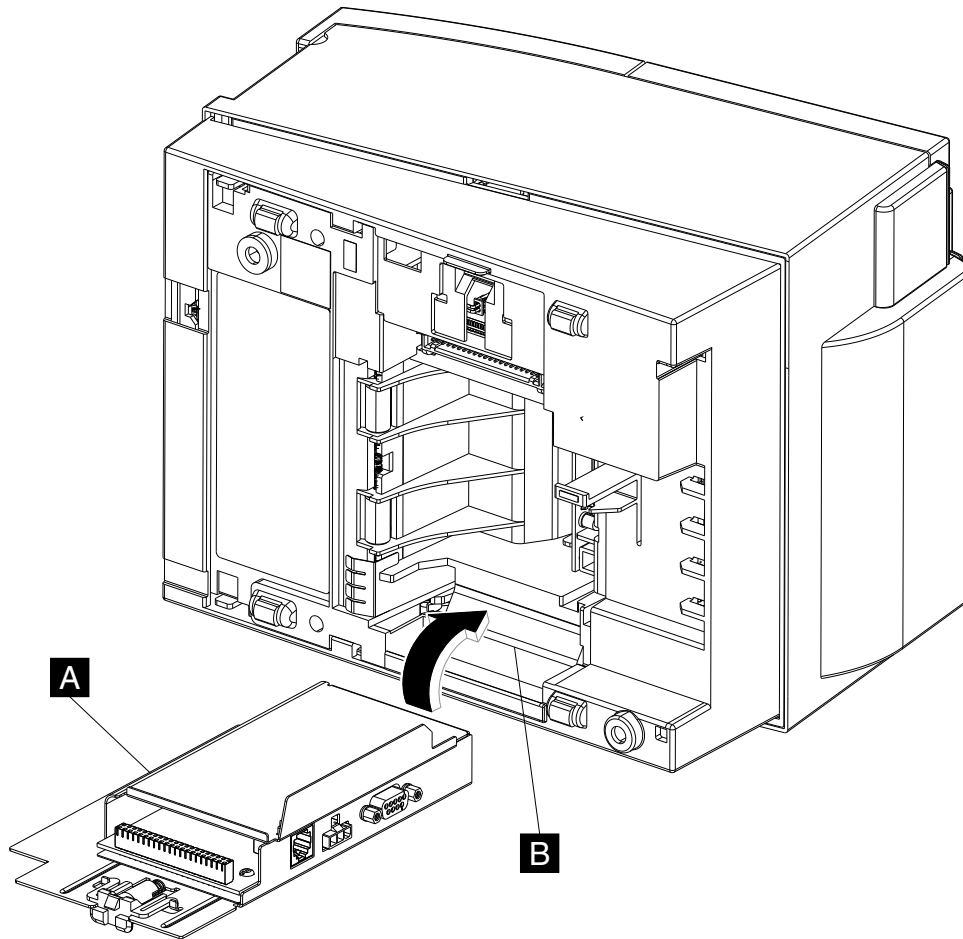

Figure 12. Installing the interface card
1. Place the printer unit on one side, as shown in Figure 12.